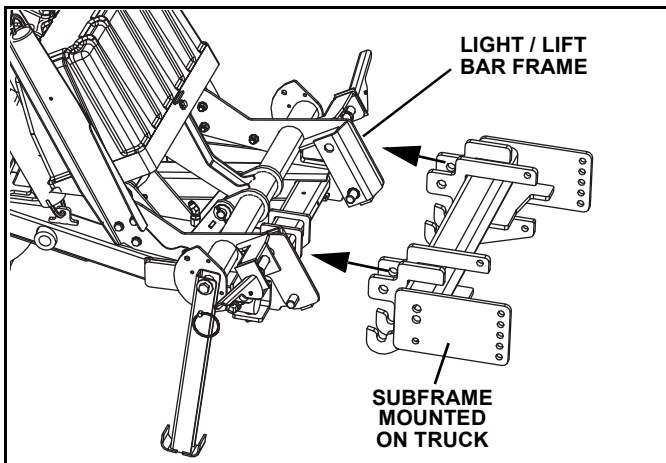

Figure 1-17
1. To mount plow onto truck, position truck to align light/lift bar frame inside of subframe lugs. Pins should fit inside slots cut into subframe lugs (See Figure 1-17).